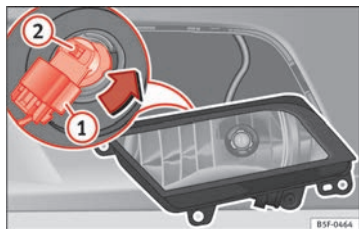

Fig. 195 Fog light.
- Remove connector ⇒ Fig. 195 (1) from the bulb.
- Turn the bulb holder ⇒ Fig. 195 (2) to the left and pull.